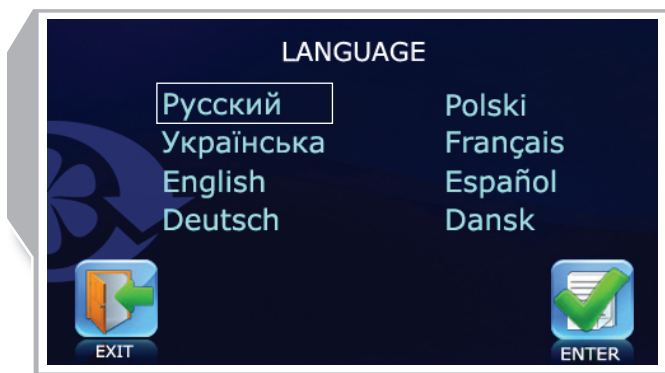

Fig. 20. Language selection
- Select the required language from the list (fig. 20).